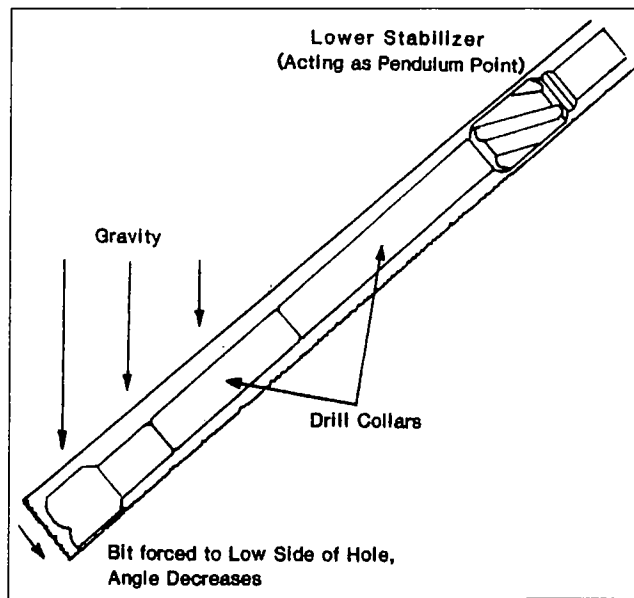

Figure 1. Using a pendulum bottom hole assembly to drop angle.
A *pendulum BHA* is probably the most often used assembly for drilling a vertical hole. A pendulum BHA is similar to a slick BHA, but contains one or more stabilizers (Figure 1). The closest stabilizer to the bit acts as a pendulum point. Gravity tends to force the bit to the "low side" of the hole, decreasing hole angle. Pendulum BHAs are run at a high RPM rate and a low weight-on-bit (WOB) rate in areas where deviation needs to be minimized.
- *Drop angle*—The pendulum BHA, discussed earlier, is also used for dropping the angle (see Figure 1).